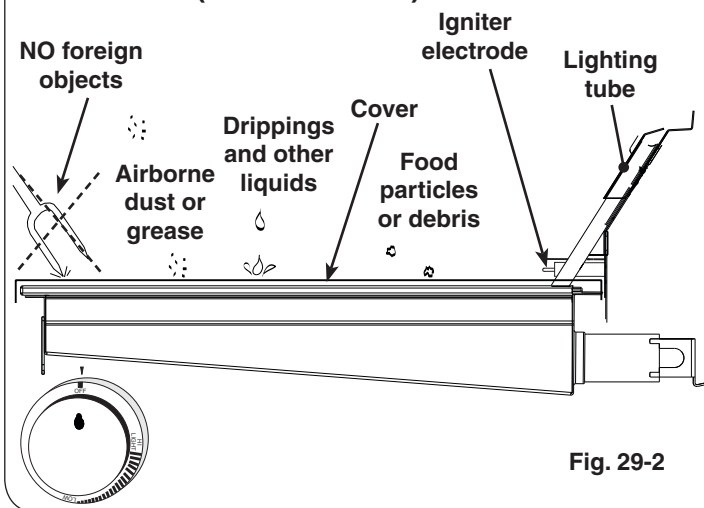

Fig. 29-2
- When not in use, **always** cover the infrared burner with the stainless-steel cover. This protects the burner from drippings (from other cooking), water, airborne particles, and foreign objects (Fig. 29-2).